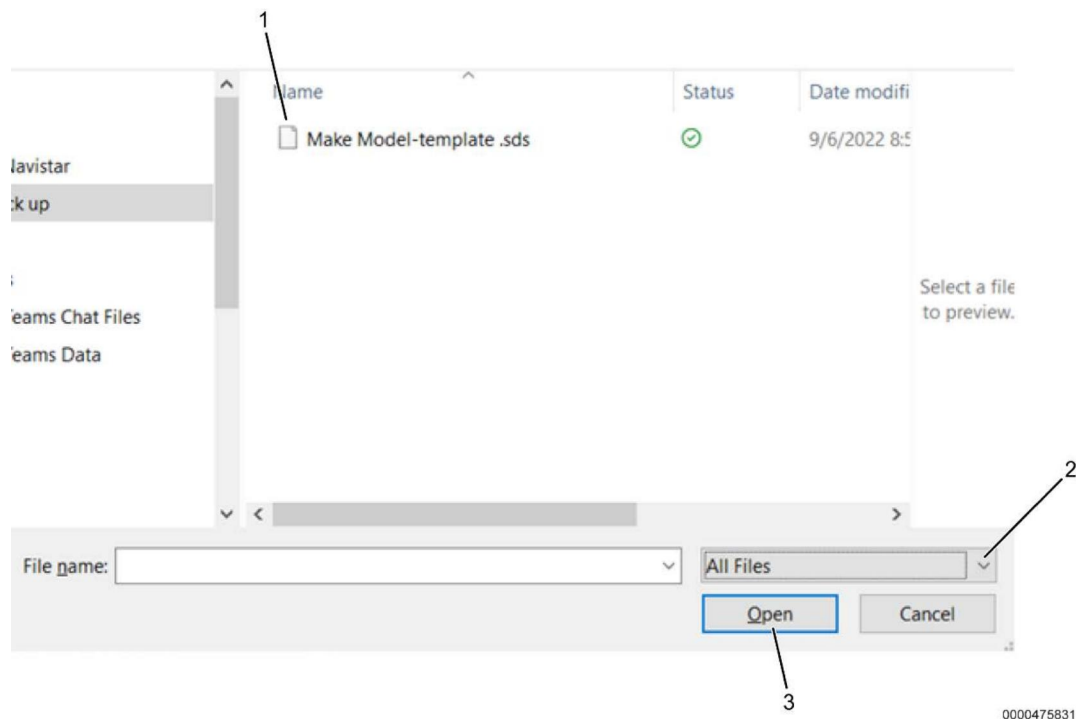

Figure 3. Load Template Screen
14. Ensure **ALL FILES** is selected (Figure 3, Item 2).
15. Select **Make Model Template** (Figure 3, Item 1).
16. Select **OPEN** button (Figure 3, Item 3).